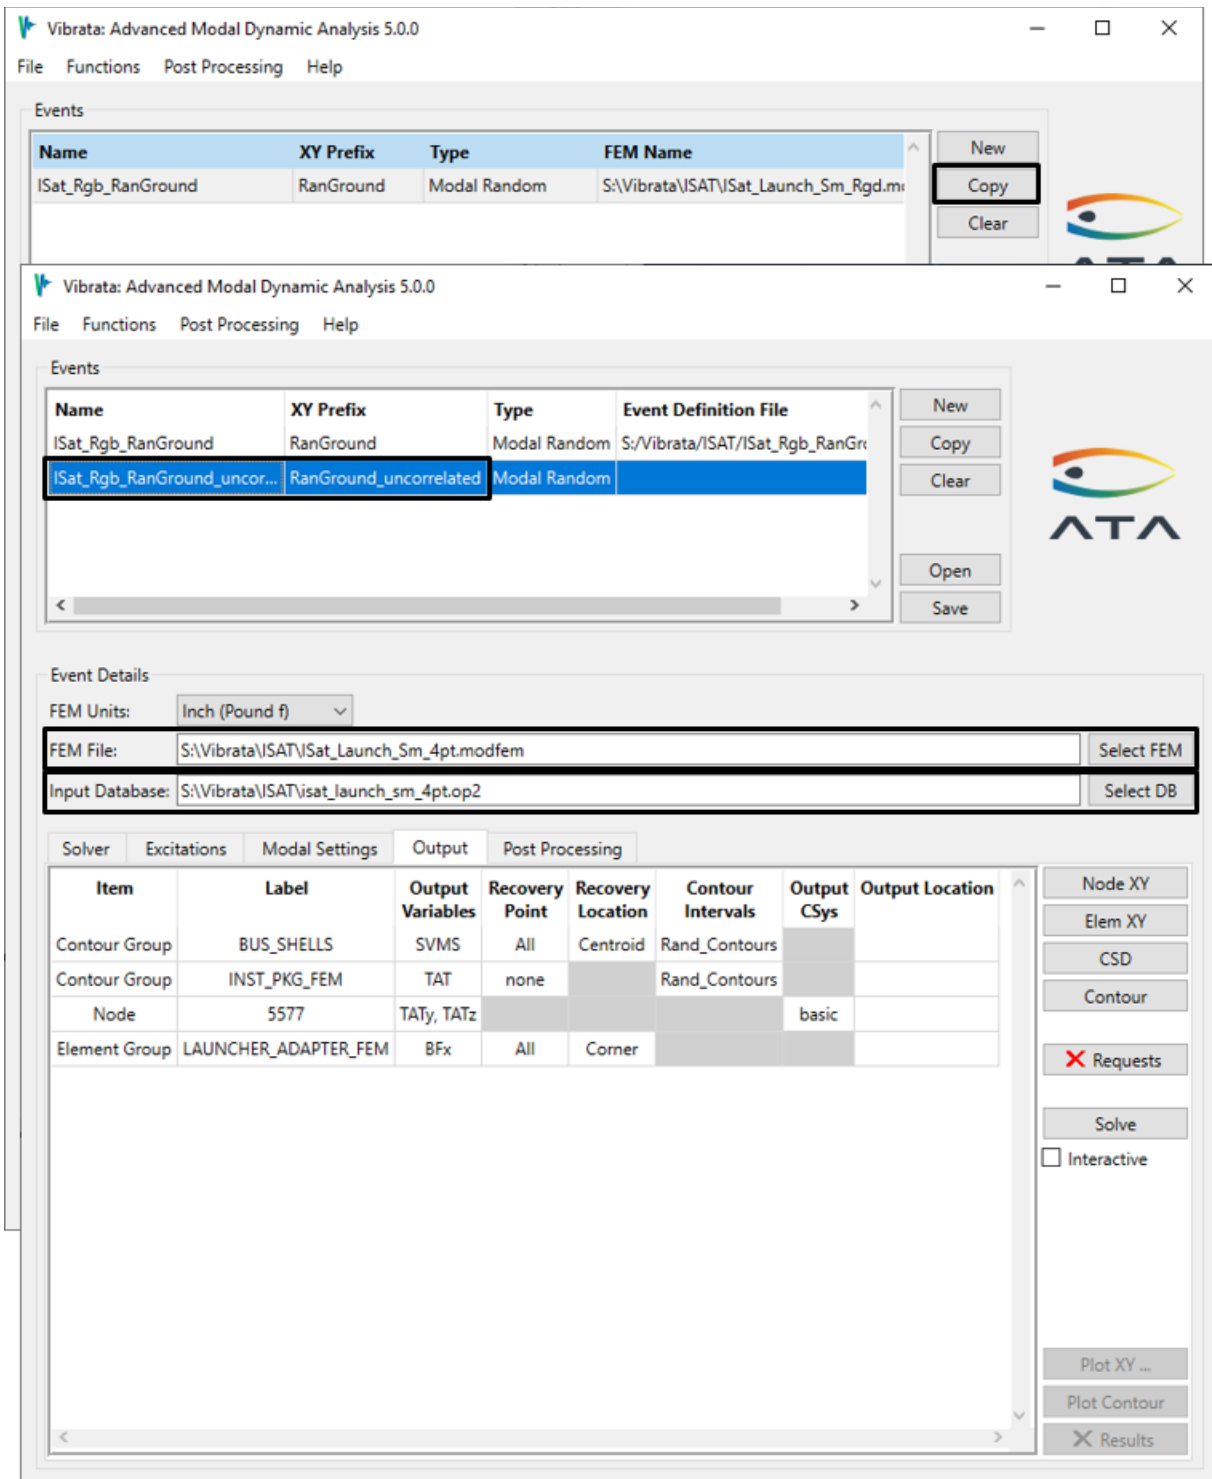

Figure 4-52. Use the **Copy** button to start a new event from the event just completed.
2. In the Event Manager, copy the event from section 4.3.2 using the **Copy** button and then assign a new name to the new event (Figure 4-52). Set the XY-Plot Prefix to "RanGround_uncorrelated" and change the event name to "Isat_Rgd_RanGround_uncorrelated". Use the **Select FEM** button to select the modfem file for the four-point model. Use the **Select OP2** button to select the OP2 with the same name. You will see a dialog warning of possible changes to excitations and output requests for the new FEM; confirm that you want to make the change. The two events will be identical in their modal settings and output requests, although the new event will have no results yet. The excitation function will also be the same as before, but we now have four input locations instead of only one, so we will have to redefine the excitations.